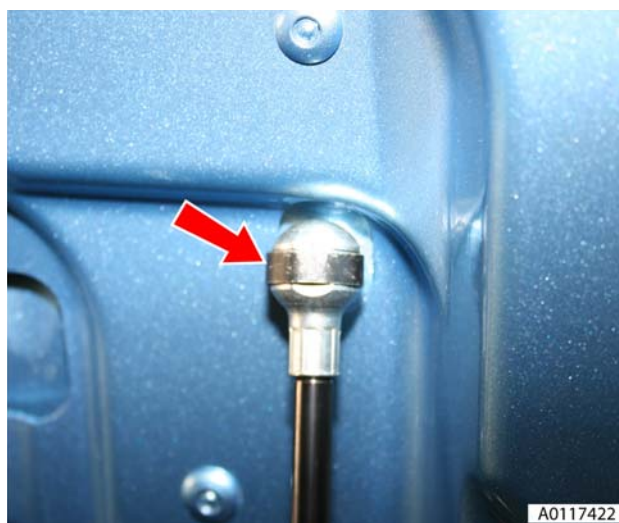

Figure 2
2. Release cylinder upper retaining clip and disconnect cylinder from tonneau cover (see Figure 2).